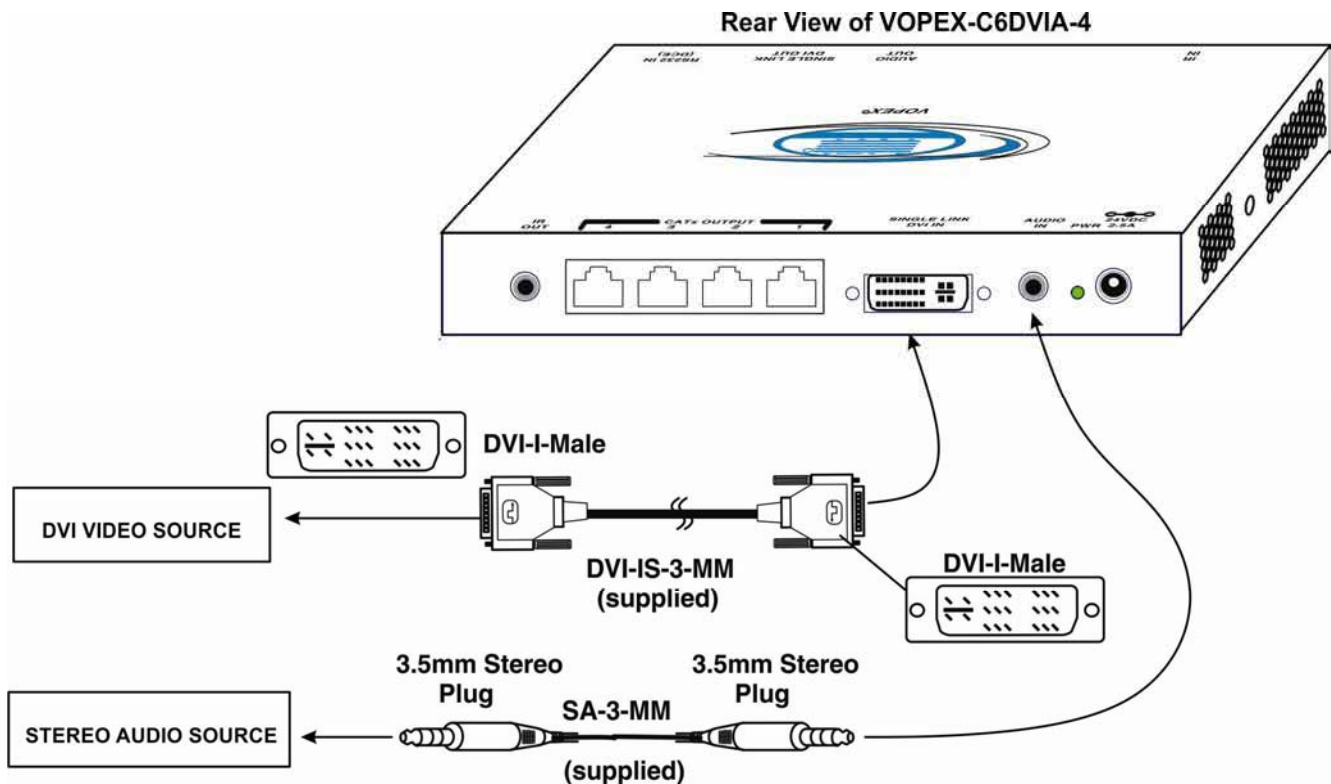

Figure 1- Connecting the VOPEX to a video/audio source
1. Make connections between the VOPEX and the audio and video source(s). (See Fig. 1.)